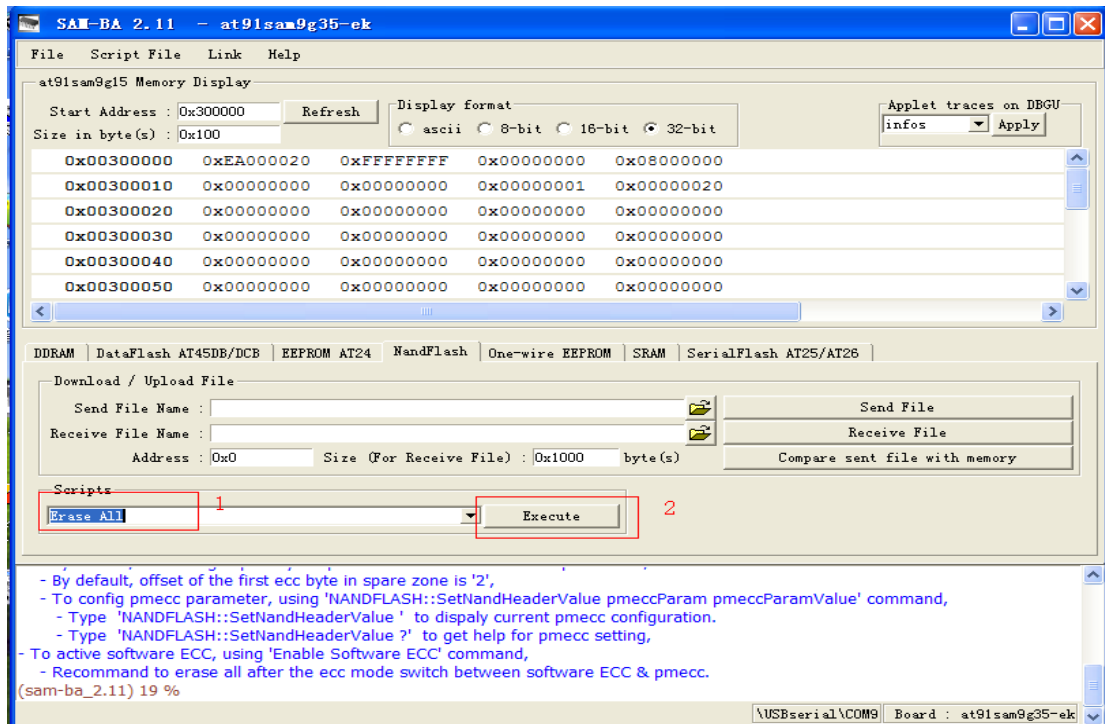

Figure 4-6
(3) Select "Erase All" in Scripts tab, then click "Execute", refer to figure 4-6: